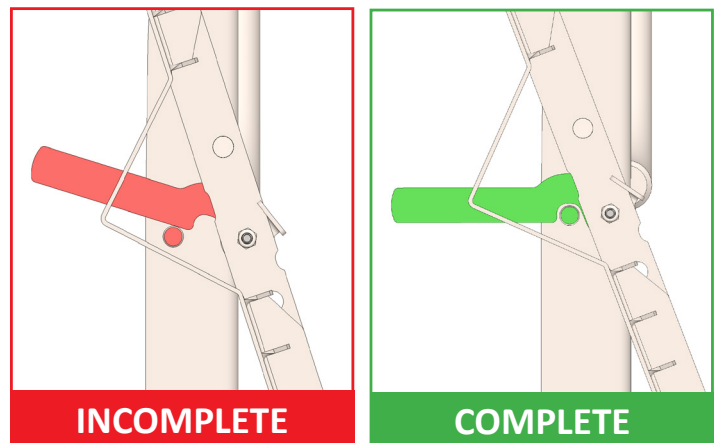

Fig. 8.2: Grate Latch Orientation
3. Latch into place against the pin attached to the corner rail [Figure 8.2].